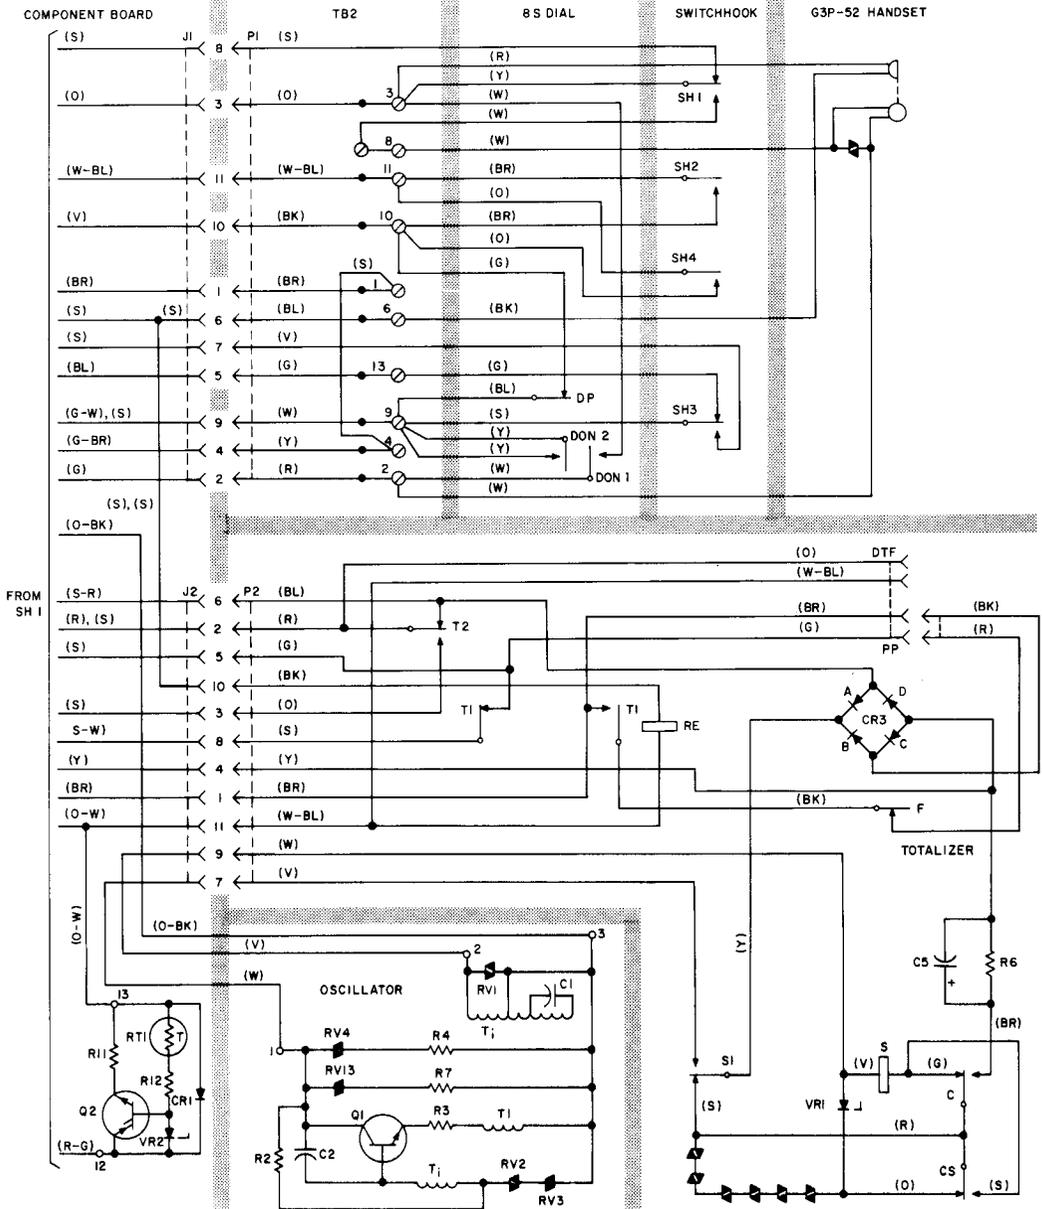

Fig. 24 — 1C1 and 2C1 Prepay Coin Telephone Sets — Connections (Sheet 2)
7.01 Refer to Fig. 24 through 27 for connecting diagrams.